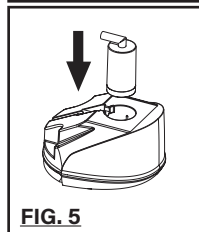

FIG. 5
Step 4 - Replace filter back into water tank. When moving please hold the water tank with two hands. (Fig. 5)